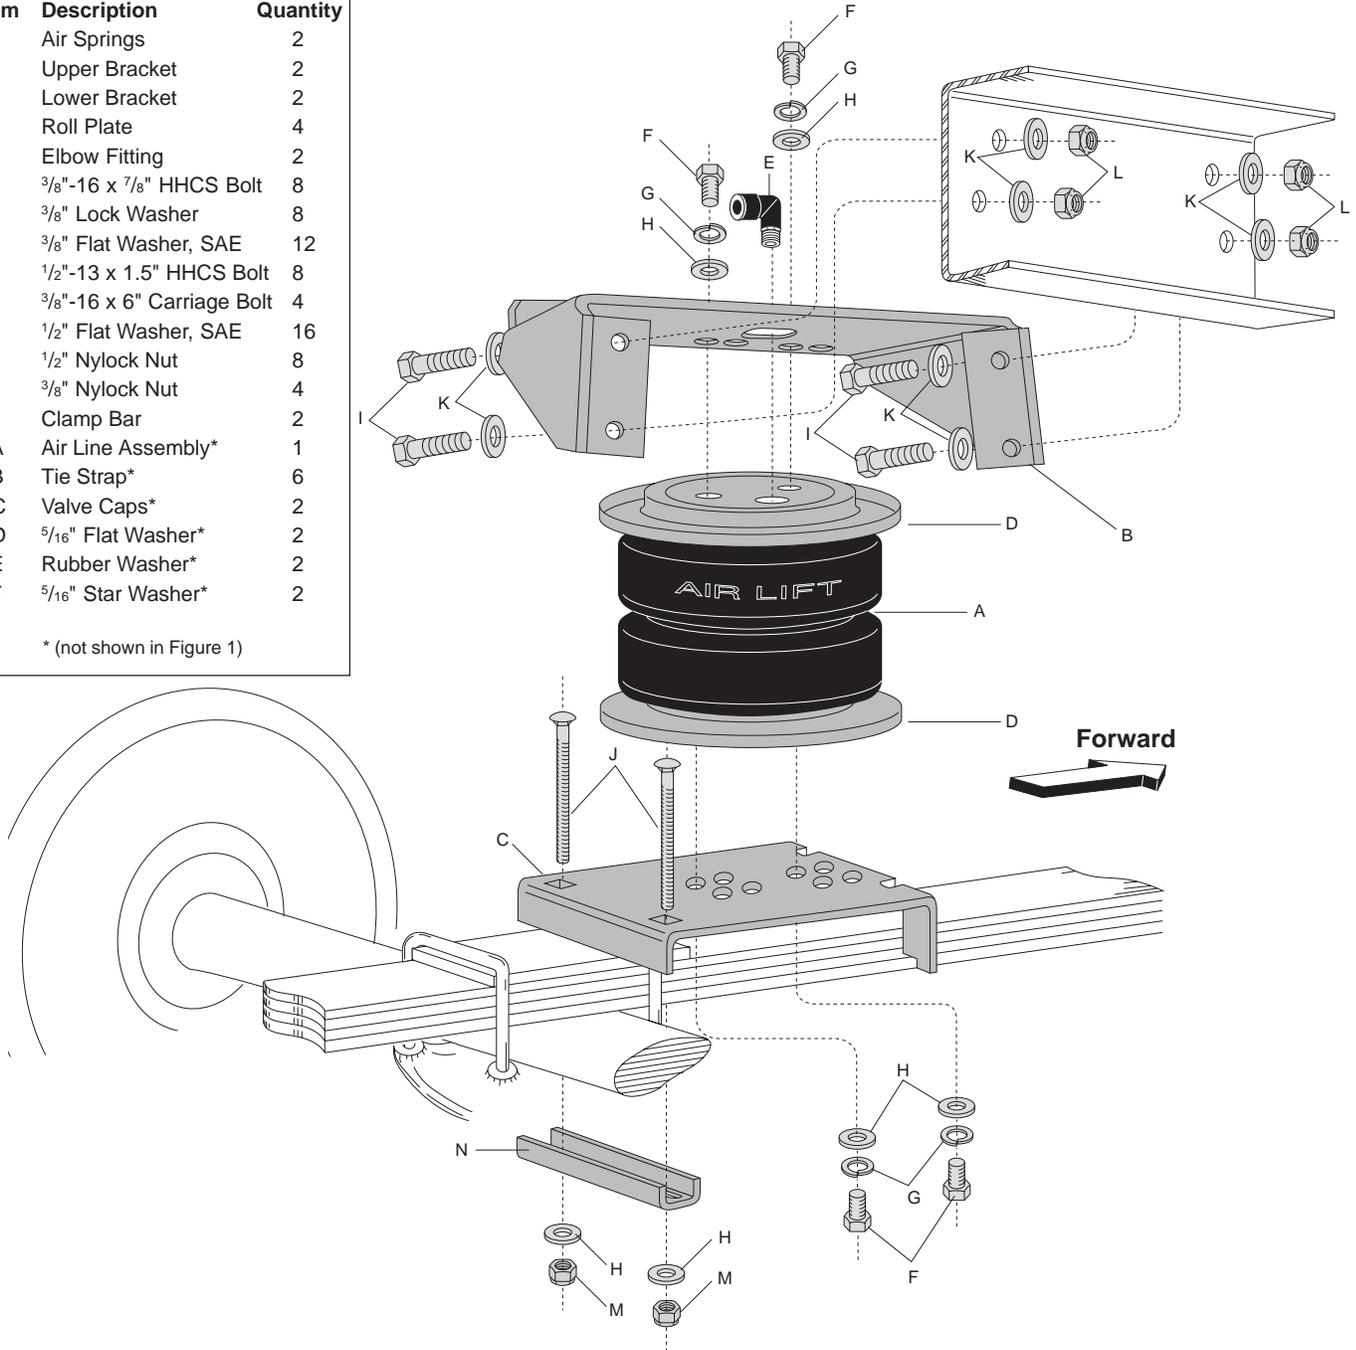
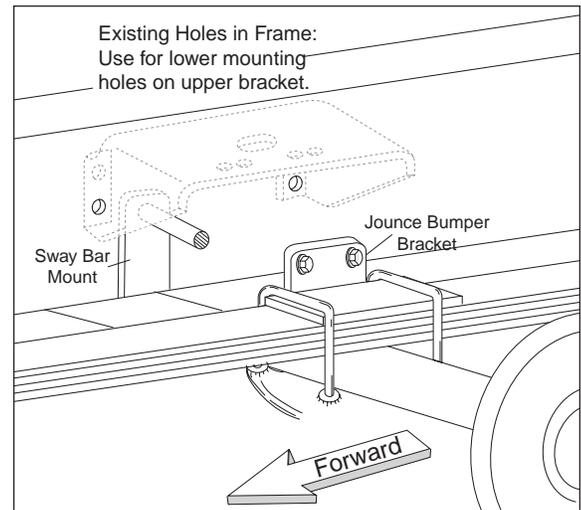

Figure 1
Figure 4
\* (not shown in Figure 1)
5. Upon determining the correct mounting holes on the lower bracket, insert two carriage bolts (J) into the lower bracket (Figure 1). Attach the air spring assembly to the lower bracket using two  $\frac{3}{8}$ " bolts (F), lock washers (G), and flat washers (H). Refer to Figure 1. Tighten bolts to 20 ft-lbs.
**NOTE:** *The rear of the lower bracket should hook around the forward U-bolt (Figure 1).*
2. Using the existing holes in the frame (Figure 4), loosely attach the upper bracket (B) with a 1/2" HHCS bolt (I), two 1/2" flat washers (K), and a 1/2" nylock nut (L) through both of the lower mounting holes in the upper bracket (Figure 1).
**NOTE:** *The rearward existing hole in the frame is located directly over the jounce bumper bracket. Also, the upper bracket goes around the sway bar mount (Figure 4).*
5. Use a 1/2" HHCS bolt (I), two 1/2" flat washers (K), and a 1/2" nylock nut (L) in each upper hole to secure the bracket to the frame (Figure 1). Tighten to 80 ft-lbs
6. Attach the lower bracket to the leaf spring using the clamp bar (N), flat washers (H), and nylock nuts (M). Tighten the carriage bolt hardware to 16 ft-lbs (Figure 1).